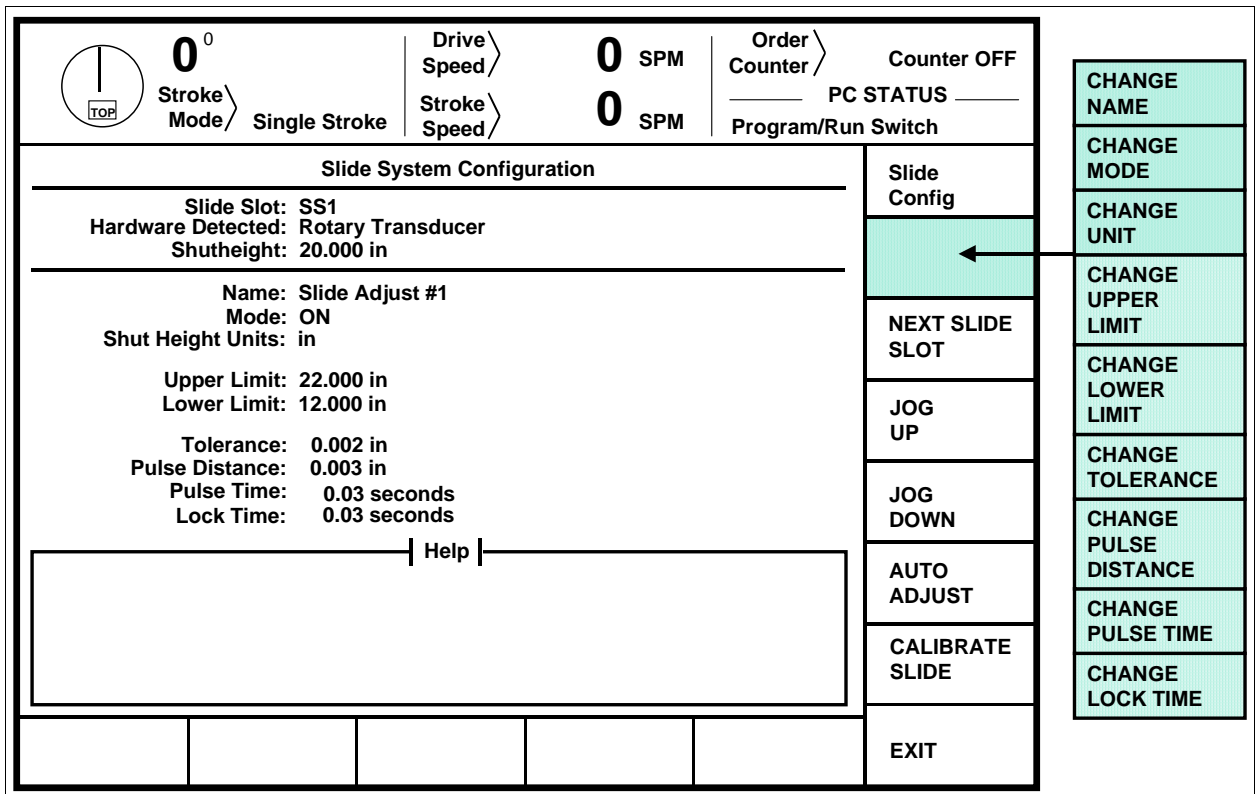

Figure 4.3: Example Slide Configuration Screen
Slide Slot	Corresponds to the physical slot number (SS1 in the example of Figure 4.3) selected for configuration on the auto-setup card. The “NEXT SLIDE SLOT” softkey will cycle between SS1 and SS2.
- a) Make sure the upper and lower limit settings have been set correctly in the slide configuration screen of Figure 4.3.
- b) Press the “CALIBRATE SLIDE” softkey in the slide configuration screen of Figure 4.3.